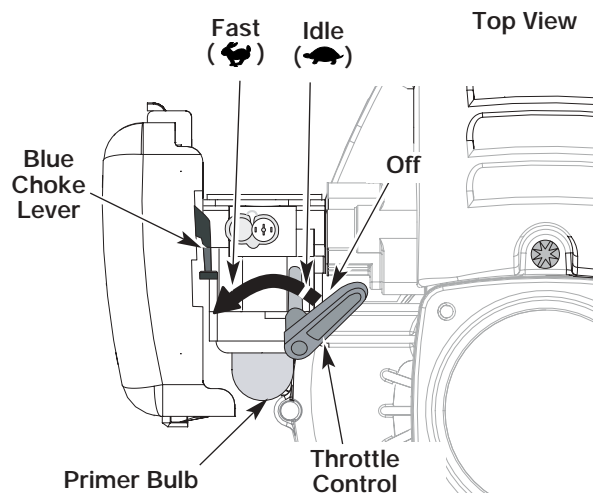
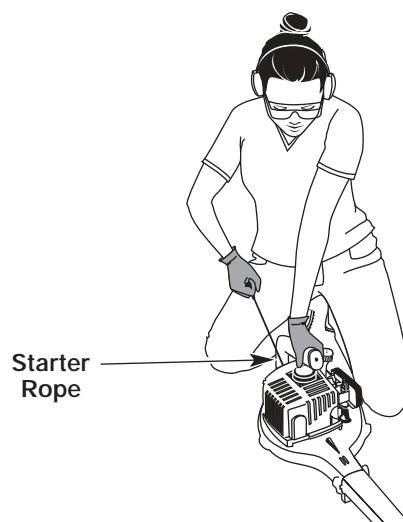

Fig. 2
Fig. 4
**WARNING:** Avoid accidental starting. Make sure you are in the starting position when pulling the starter rope (Fig. 4). To avoid serious injury, the operator and unit must be in a stable position while starting.
2. Fully press and release the primer bulb 10 times, slowly. Some amount of **fuel should be visible in the primer bulb** (Fig. 2) and fuel lines. If you can't see fuel in the bulb, press and release the bulb as many times as it takes before you can see fuel in it.
4. Place the unit in the starting position (Fig. 4). Move the throttle control to the fast position (🚗) (Fig. 2).
1. To turn off the blower, move the throttle control lever all the way to the right, past the idle position (🐢) until it clicks. Make sure you move the lever into the furthest right detent in order to turn the unit off (Fig. 2).